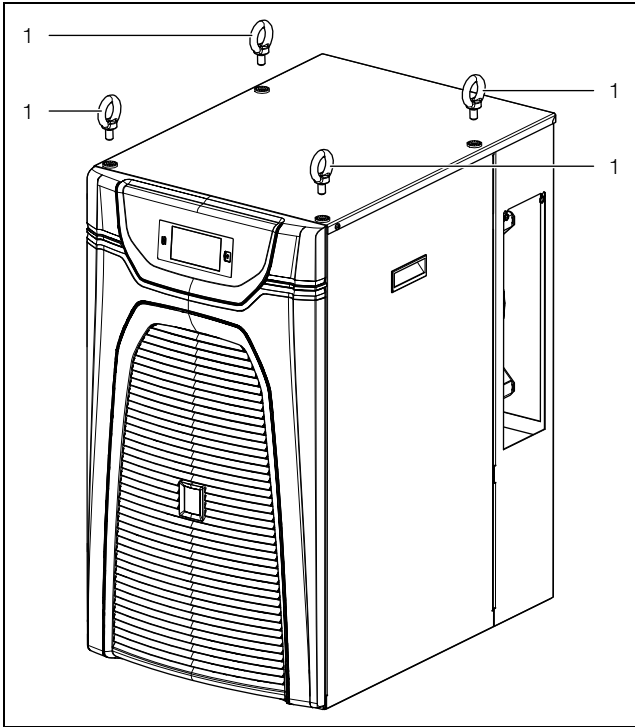

Fig. 7: Eyebolt for transportation (3320200)
- Only transport the chiller on the pallet supplied with the chiller or with the eyebolt provided (fig. 7, item 1). Serrated washers for earthing are fitted to the eyebolts in the mounted state. After transportation, the eyebolts are exchanged for the pan-head screws provided. Plastic washers are included in the bag of accessories to protect the paint.